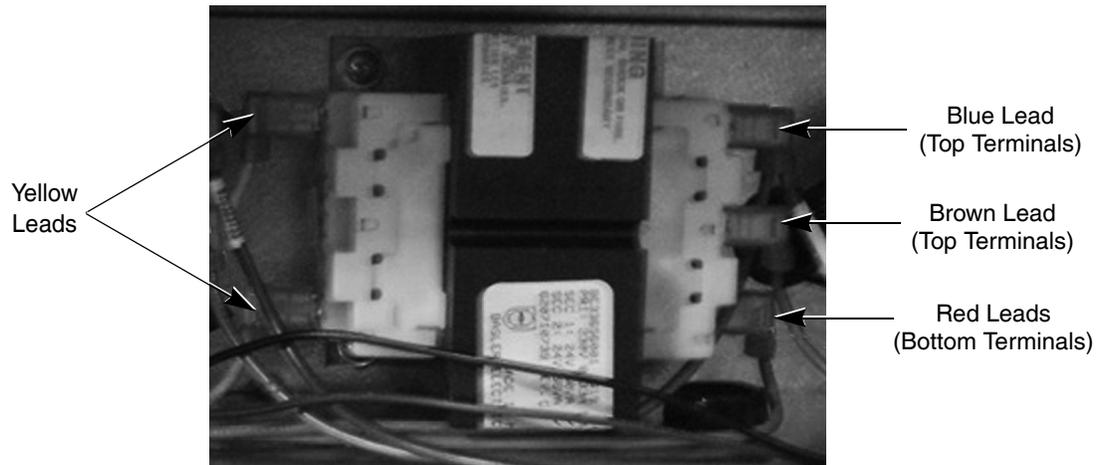

Figure 6. Transformer Lead Location and Colors
5. Connect the yellow leads to the left side terminals on the transformer. Connect the blue, brown and red leads to the right side terminals of the transformer, as shown in Figure 6.